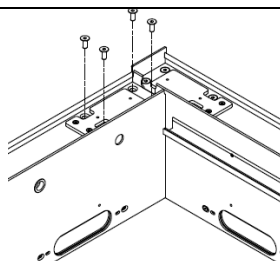

Figure 35
15. Support the free end of the crossbeam and when inserted into the lengthwise beam, screw from above using 4 countersunk screws M8x20 with Allen socket (fig. 35).